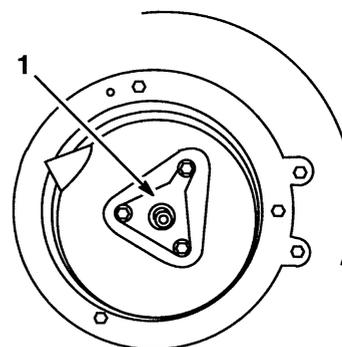

Figure 34
12. Reinstall muffler and crankshaft support to engine mounting plate (Fig. 34).